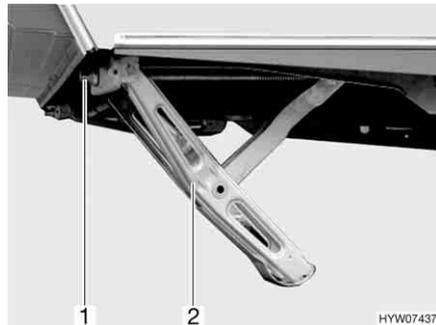

Fig. 23 Corner steady cranked down
- Place the hand crank provided as standard on the hexagonal nut (Fig. 23,1) of the corner steady (Fig. 23,2).